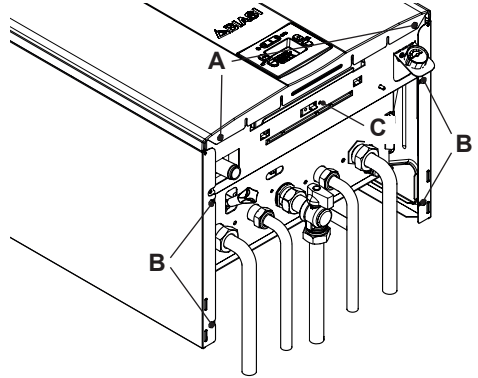
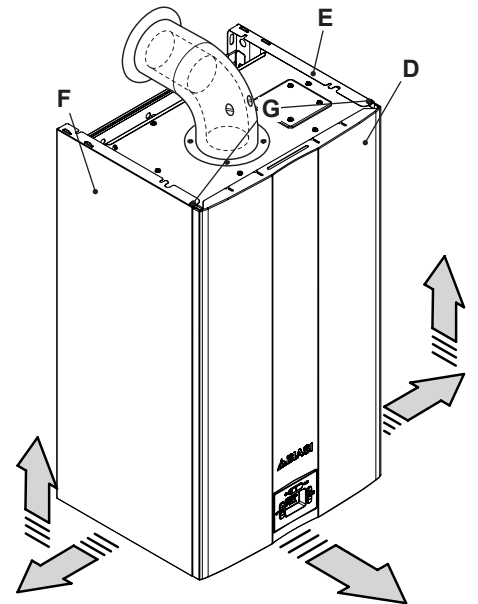

Figure 9.1
Figure 9.2
- Unscrew the screws **A** and **G** then remove the front panel **D** by pulling it towards you (Figure 9.1 and Figure 9.2).
Loosen screws **B** in Figure 9.1 and remove the two side panels **E** and **F** pulling them
- Unscrew the screw **C** in (Figure 9.1).